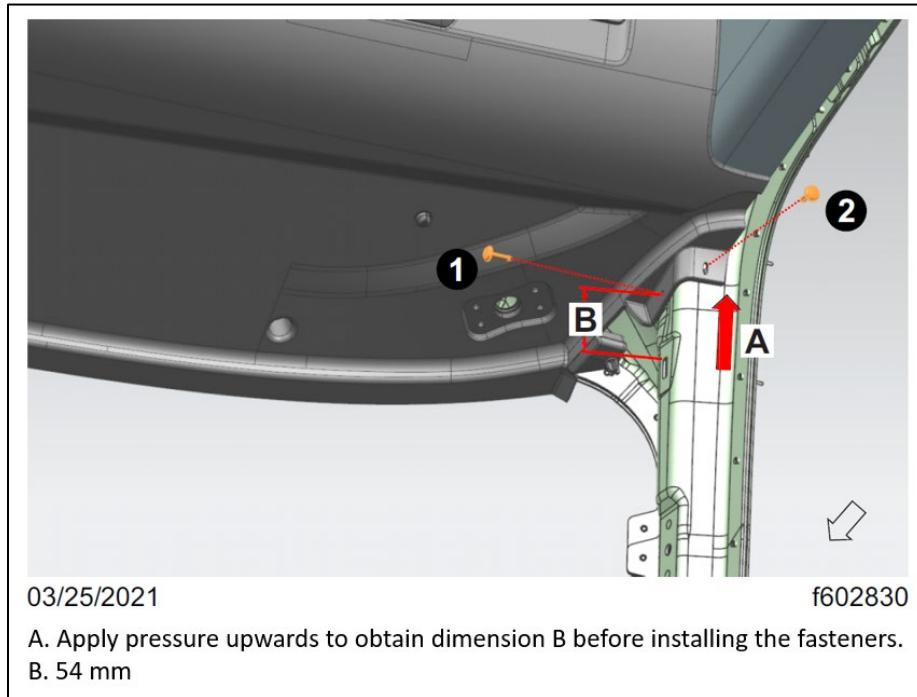

Fig. 25, Install Fasteners That Attach the RH Side Overhead Storage Cabinet to the A-Pillar
6.3. Apply pressure upwards on the RH side overhead storage cabinet, install the two fasteners that attach the RH side overhead storage cabinet to the A-pillar. Tighten the fasteners 11 to 13 lbf.ft (14 to 18 N.m) as per the sequence shown in Fig. 25.